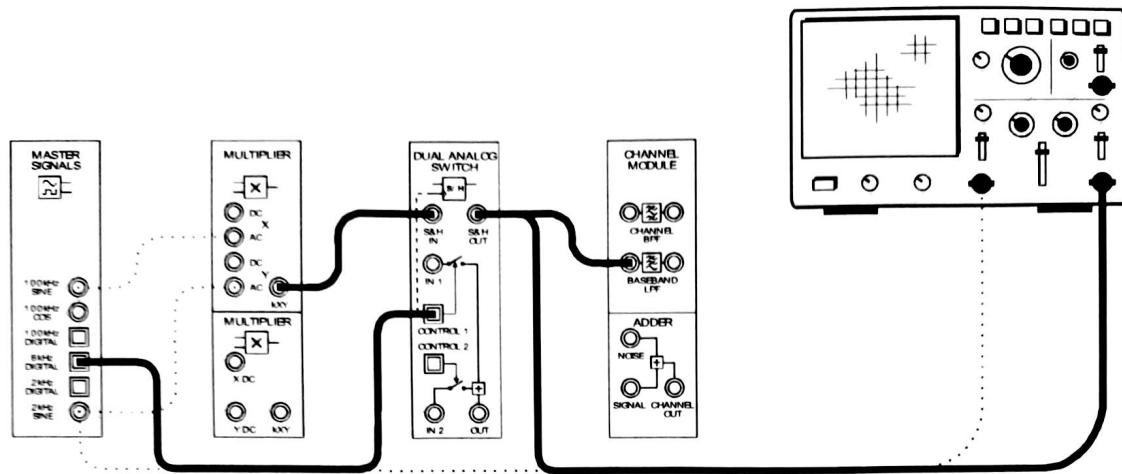

Figure 3
8. Modify the set-up as shown in Figure 3 on the next page.